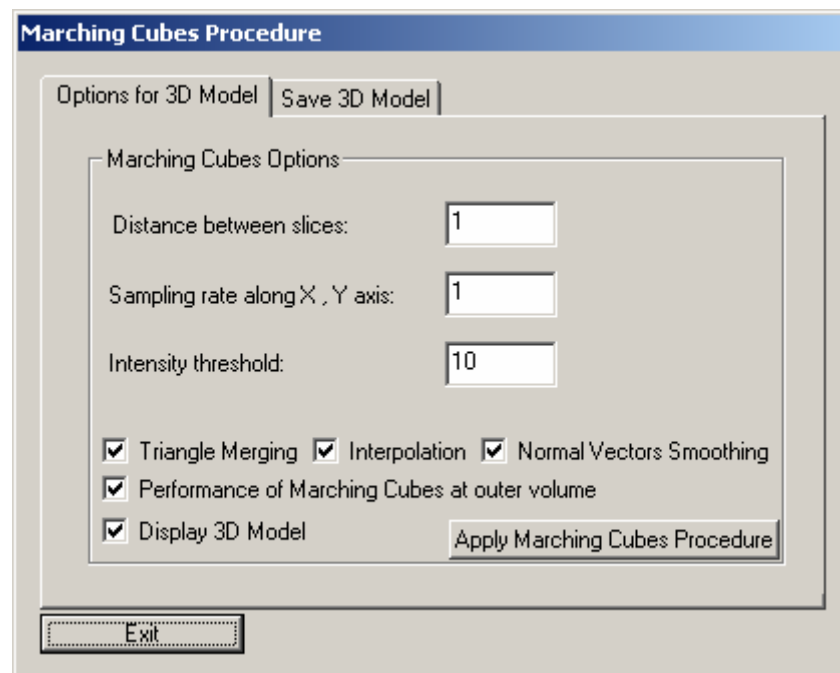

Figure 3: The *Options for 3D Model* dialog box tab.
*Options for 3D Model* tab: The Model dialog supplies the Marching Cubes Options for the 3D model (Figure 3).